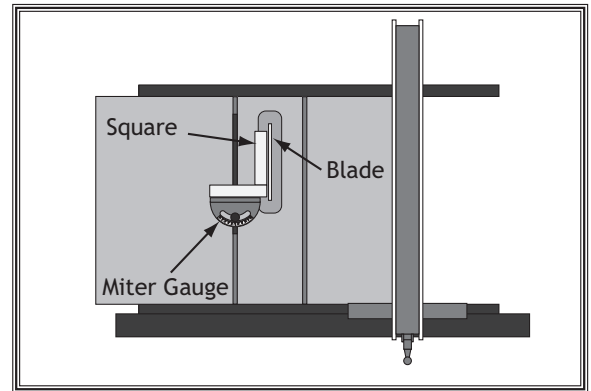

Figure 122. Checking 90° stop on miter gauge.
3. Place square evenly against face of miter gauge and blade, as shown in **Figure 122**.